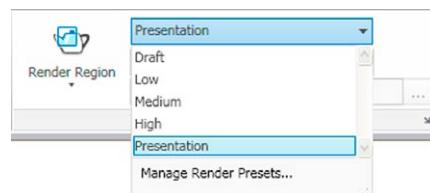

Fig. 15.27 Setting the form of rendering to **Presentation**
3. Select **Presentation** from the **Render Presets** menu in the sub **Render/ Render** panel (Fig. 15.27).